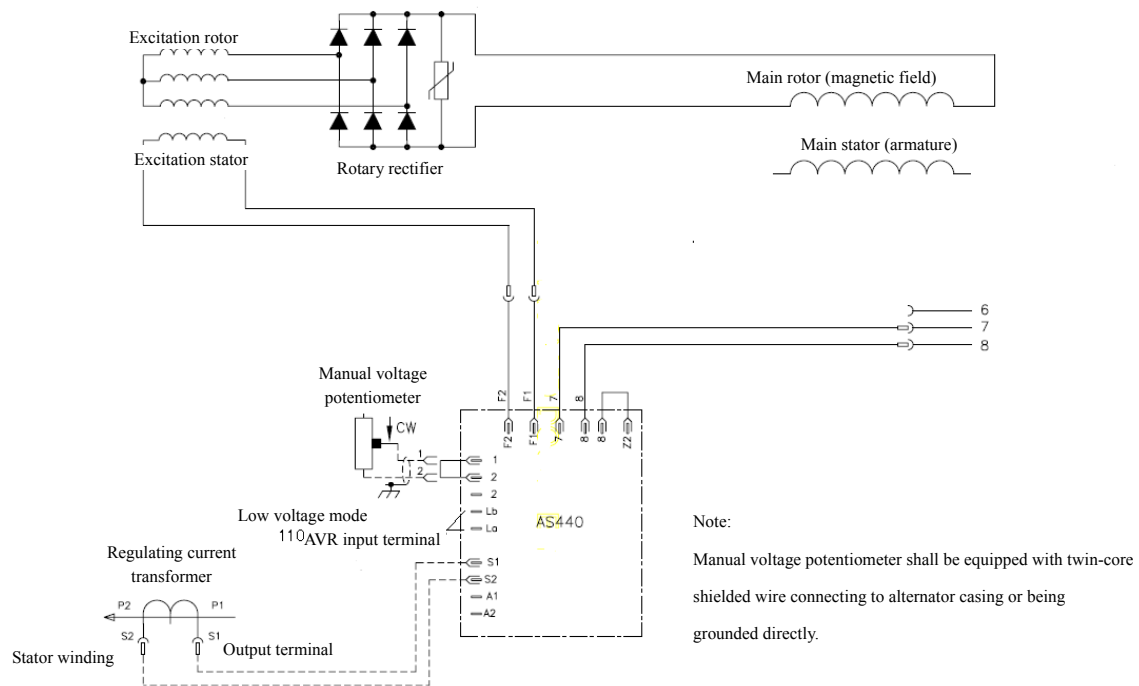

Figure 3-5 AS440 Wiring diagram
2) As shown in Figure 3-5, terminal 7 and 8 are connected to main stator (armature) of alternator and terminal F1 and F2 are connected to exciter stator (magnetic field);